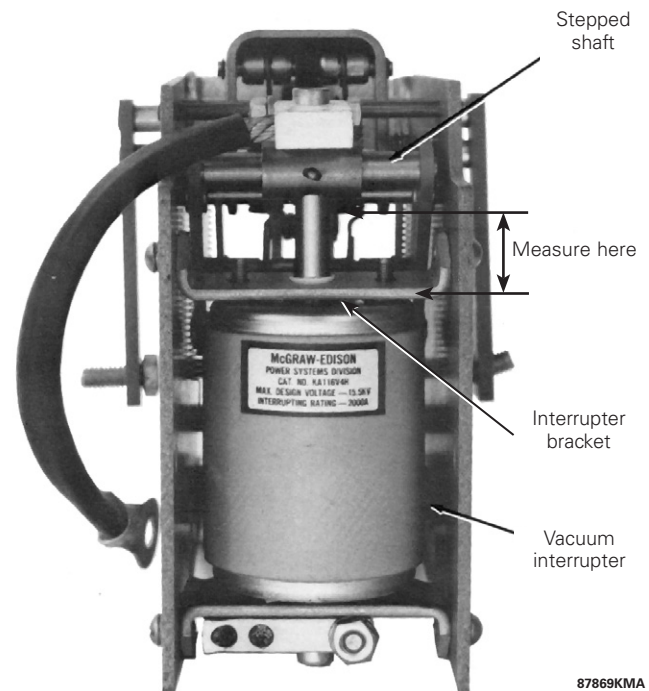

Figure 8. Measurement of contact erosion, type V4H
12. Inspect tank liners. Soft or spongy areas indicate that water has been absorbed. Replace liners if this condition exists. Locate the seam of the tank liner opposite the pole-mounting bracket, see Figure 8.